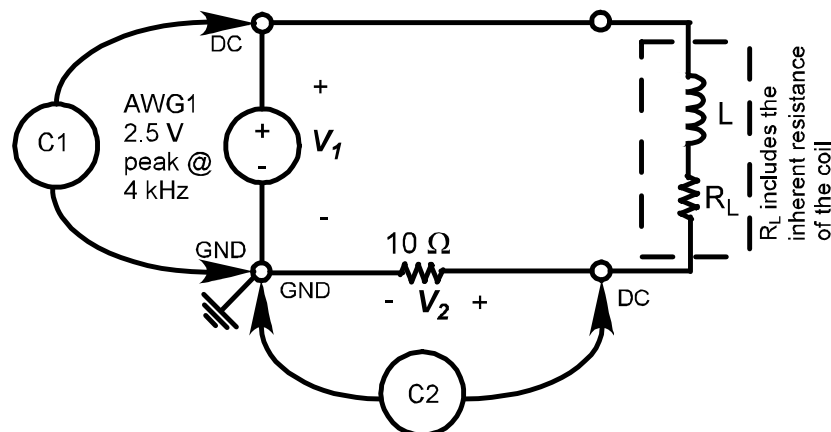

Figure 1 - Circuit Diagram for Voltage & Current Phasor Measurement
- From phasor measurements of the voltage across an inductor and the current through it (Fig 1), write an equation to find R_L , X_L , and L as a function of $V_L \angle 0^\circ$ and $I_L \angle \theta^\circ$ and frequency, f .
- From the knowledge of both self inductances (L_1 and L_2) and the mutual inductance (M) of a pair of coupled coils, write the equation for the coupling coefficient k .
2.2 **Measure the self inductance of the coils.** Before starting this part, read ahead to see how much data you'll be taking in this part and the next. Then plan a tabular method to record the data. Note that the Function Generator (AWG1) is grounded, so you have to use the circuit in figure 1 to avoid "ground loops". The voltage on C2 will give you the current as a phasor; divide the voltage on C1 by the current to get the "total" impedance:
2.3 Measure the self-inductance of each coil using the function generator and the scope as shown in figure 1: